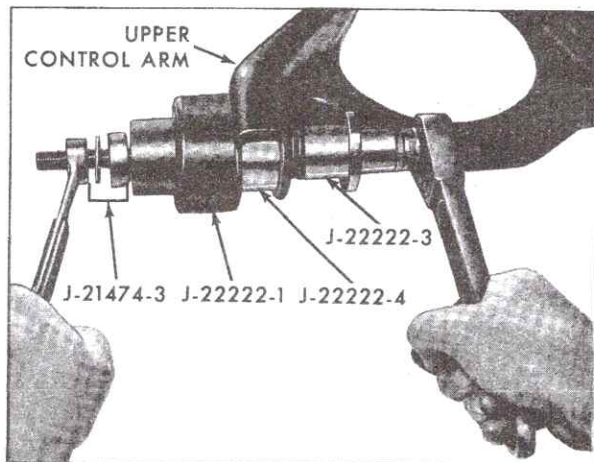

Fig. 3-35 Removing Upper Control Arm Bushings
7. Attach bushing removal tools as shown in Fig. 3-35.